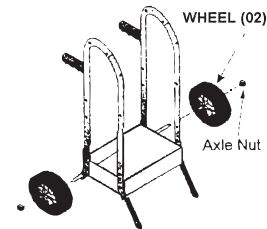

Figure 3. Wheel Installation
5. Assemble the wheels. Slide one wheel (02) and one axle nut per side as in **Figure 3**. Tighten the nuts.